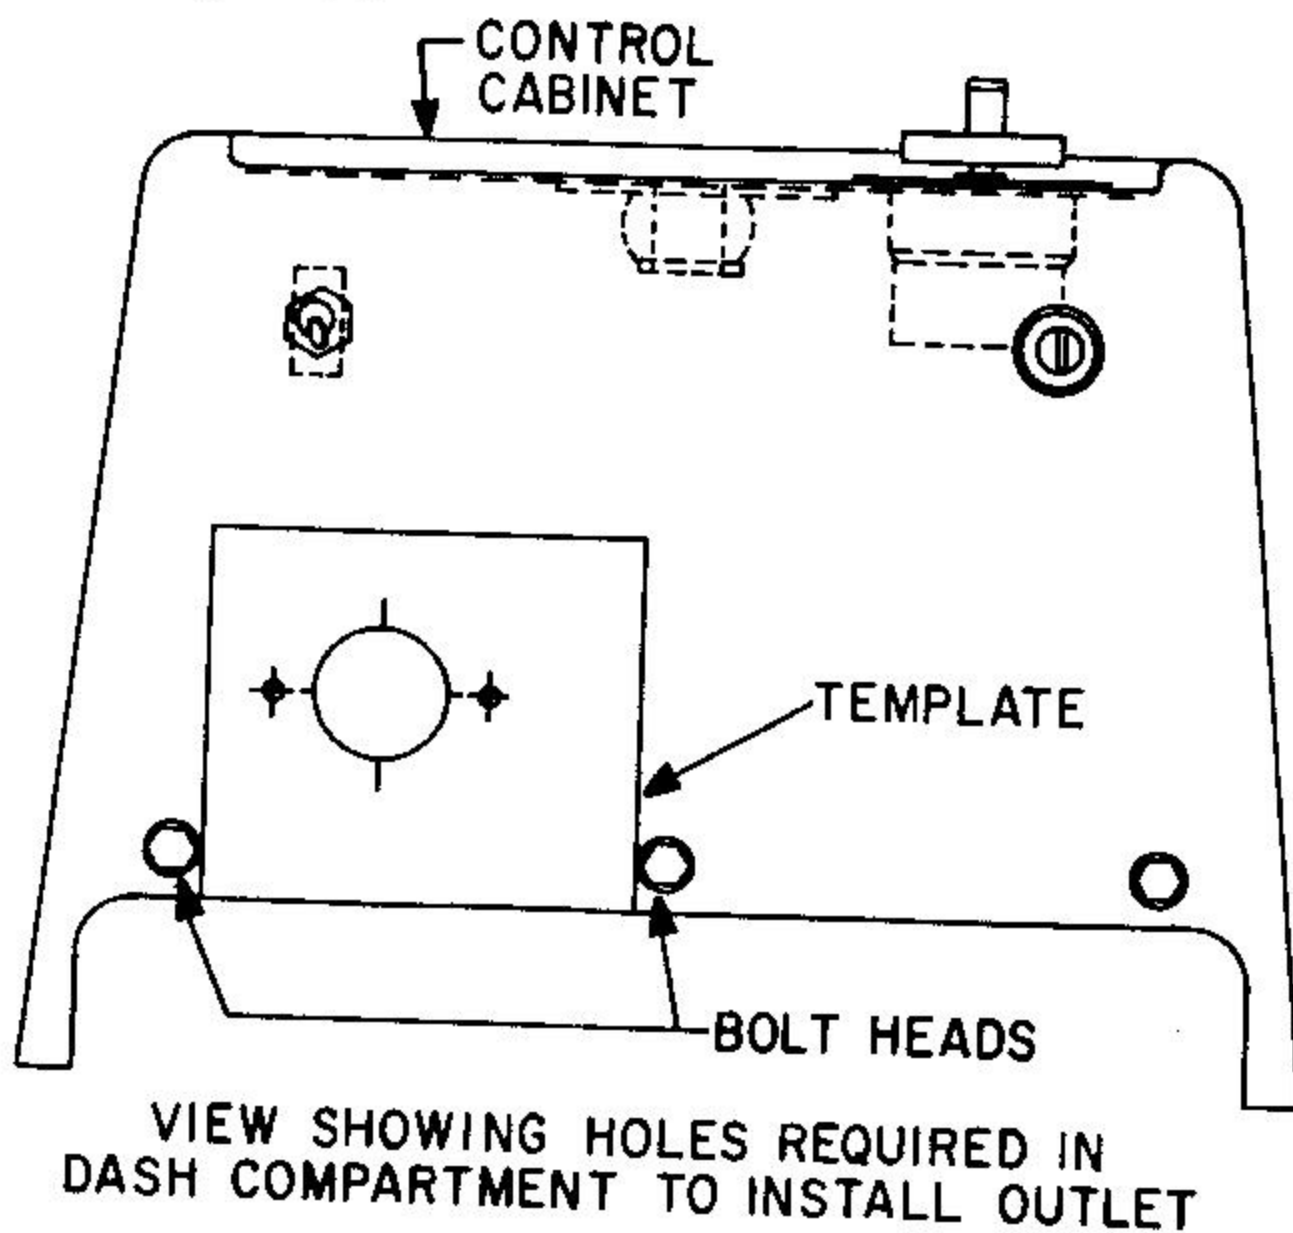

Figure 2
2. Place the cardboard template so its sides are against the left and center boltheads which secure the control cabinet to the frame. See Figure 2.